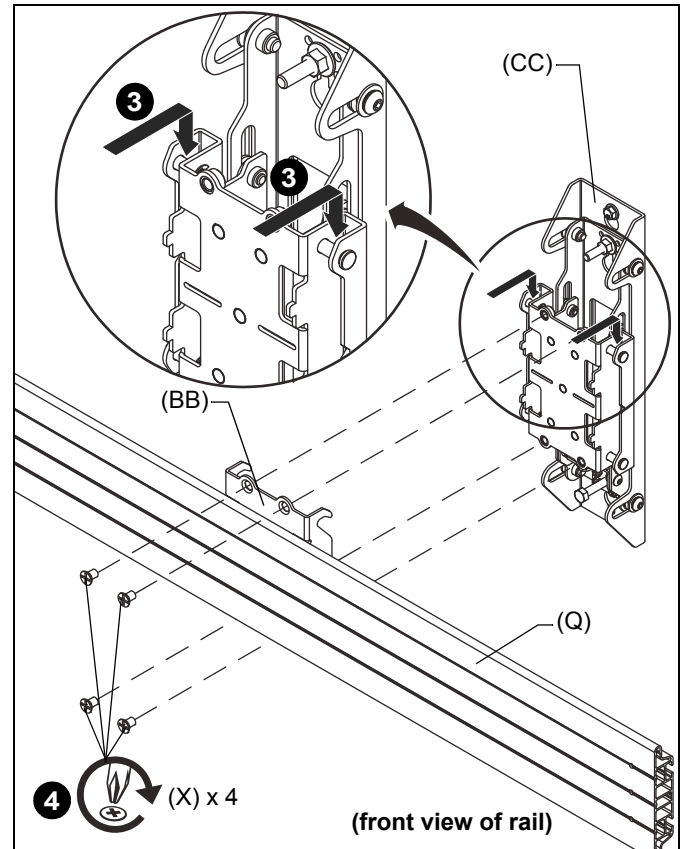

Figure 12
3. Hook height adjust plates (BB) over wall uprights (CC). (See Figure 12)
**NOTE:** Hook both height adjust plates (BB) over wall uprights (CC), and approximately center mounting rail over the span of the wall uprights (CC) **BEFORE** proceeding to next step.
4. Fasten mounting rail (Q) to wall uprights using four 5/16 x 1/2" Phillips flat head screws (X) through height adjust plate (BB) and into wall uprights (CC) and tighten all screws. (See Figure 12)